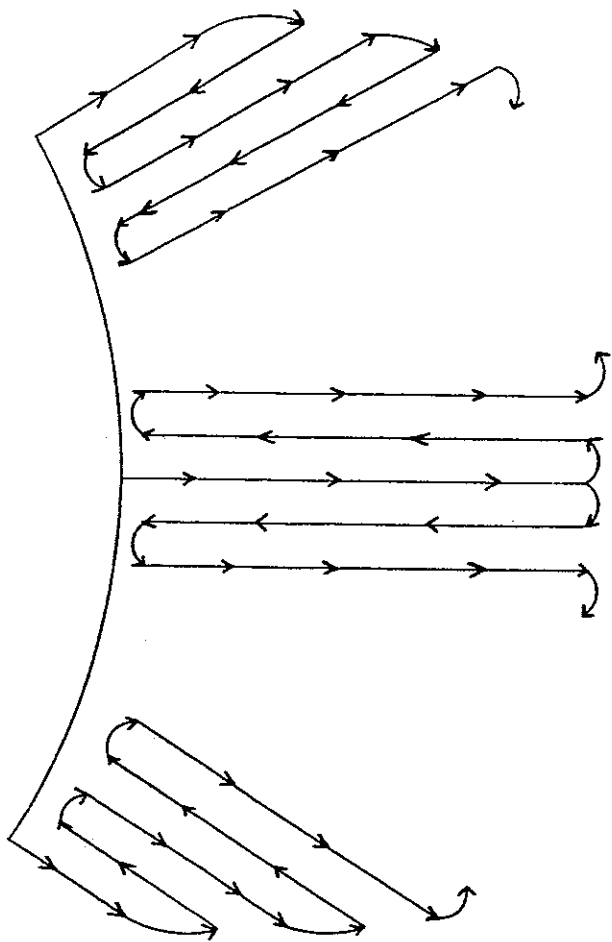

Figure 14.
- a. Third base to fence (down left-field line). (Figure 14.)
- b. First base to fence (down right-field foul line). (Figure 14.)
- c. Second base to flag pole (straight out to center-field fence). (Figure 14.)
For illustrations of the outfield methods see Figures 14 and 15. The reason for using different mowing methods is to make the grass coverage denser. If the grass were to be mowed the same way each time, there would be many bare spots.